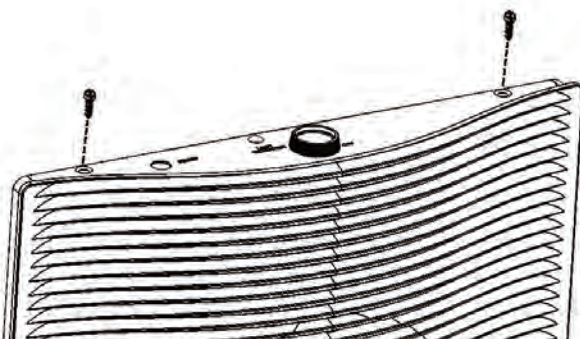

Figure 8- Securing Bezel
7. Tighten top cover screws down to hold grille in place. See Figure 8.